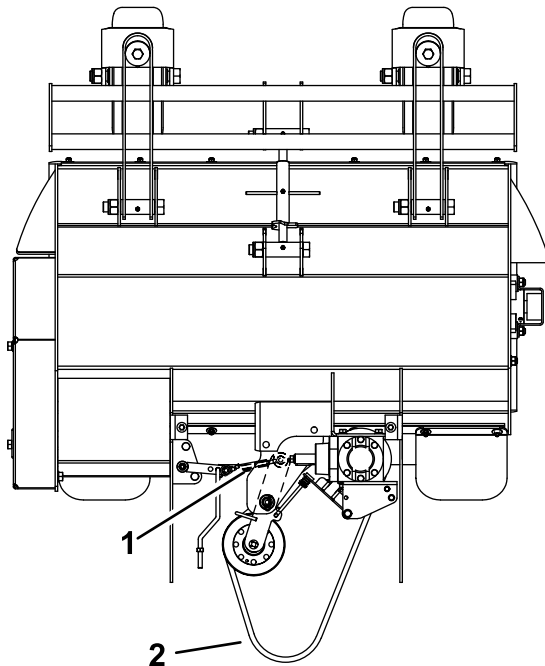

Figure 6
6. Check the rotor drive belt routing (Figure 6); refer to the Replacing the Rotor Drive Belt Tension section in the traction unit *Operator's Manual* to adjust the drive belt.